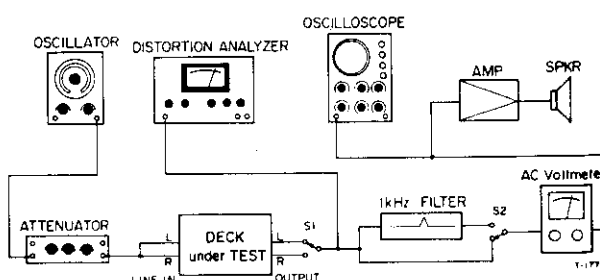

Fig. 5-1 Basic test setup
16. Erase efficiency	- Connection is same as in Fig. 5-1, but engage 1-kHz filter. - Record a 1-kHz signal. Rewind tape to midpoint of recorded portion. Record a "no signal" portion. Find the difference between the 1-kHz portion and the "no-signal" portion.
17. REC MUTE function	- Connection: Fig. 5-1, but engage 1-kHz filter. - Record a 1-kHz signal. Push REC MUTE button for several seconds. Rewind and play the tape. Find the difference between the 1-kHz portion and the "no-signal" portion.
18. Channel separation	- Connection: Fig. 5-1, but do not connect LINE IN (R), and engage 1-kHz filter. - Set the deck to record mode. Find the difference between the 1-kHz recorded portion (L-ch) and the "no signal" portion (R-ch).
19. Adjacent track crosstalk	- Connection: Fig. 5-1, but do not connect LINE IN (L) and OUTPUT (L). - Record a 125-Hz signal on R-ch and note output level. Invert tape and play R-ch track. Check leakage level against the output reference of previously recorded portion.